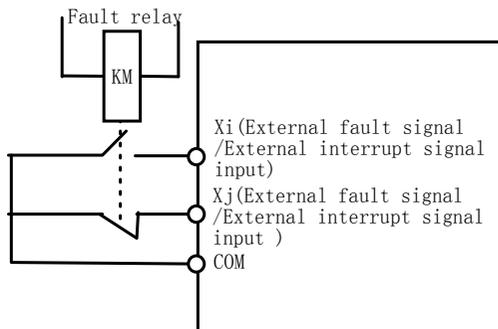

Figure. 5-3-6 Normally open / normally closed
- ◆ EH0 - External fault signal normally open / EH1 - External fault signal normally close: This is to define external fault command. If the setting is 37~38, the fault signal of external equipment can be input by the terminal. Once the inverter receives the fault signal, it stops output immediately, and displays last fault code. After the external fault signal is removed, the inverter needs to be reset before restarting. Tips: Inverter can't reset if external fault signal isn't released. EH0 and EH1 are not influenced by P3.00, Shown in Figure.5-3-6.
- ◆ EI0 - External interrupt signal normally open / EI1 - External interrupt signal normally closed: During operating, the inverter stops its output and runs at zero-speed when it receives external interrupt signal. Once the signal is removed, the inverter will start and resume normal operation. Please refer to note of EH0 and EH1 above. As shown in Figure. 5-3-6.